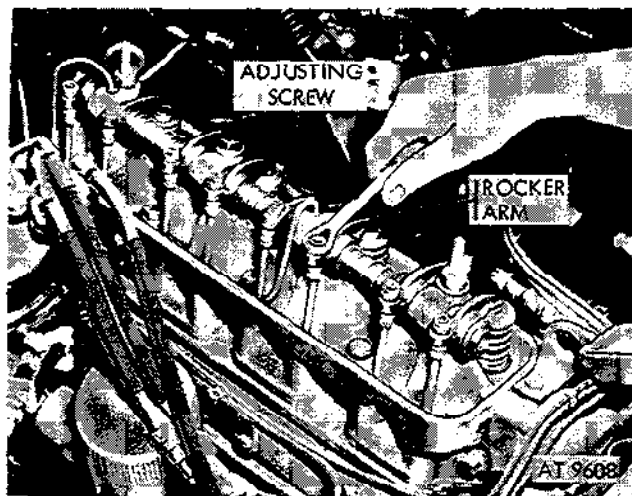

Figure 2-61. Back off adjusting screws.
(11) Loosen eight valve-adjusting screws one turn to reduce load on rocker arms (fig. 2-61).